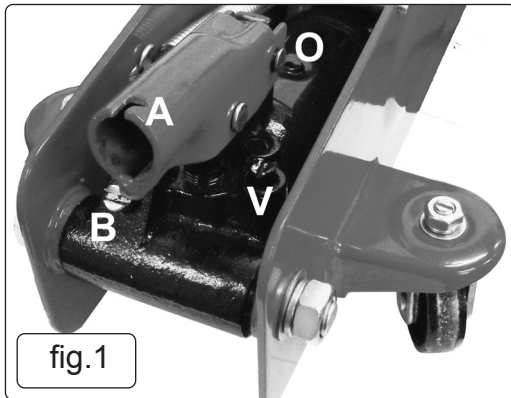

fig. 1
- 4.1.1. Before using jack for the first time, purge the hydraulic unit in order to eliminate any air in the system. Place handle onto the release valve, fig.1.B and open valve by turning the handle anti-clockwise for a maximum of one turn. Place handle back into the jacking point, fig.1.A and pump for 30 to 40 seconds. When complete, close the release valve by turning the valve fig.1.B clockwise.
- 4.4.1. Place the handle onto the release valve fig.1.B and turn it clockwise to close the valve. Place handle into socket fig.1.A and commence pumping handle up and down, until the jack saddle reaches the vehicle jacking point. Check the jacking point is centrally located on the saddle. Super Rocket Lift will only operate until chassis is reached. After that continued pumping raises the load at a slower rate.
- 4.5.1. Raise the jack high enough for the axle stands to be easily removed. Then place handle on release valve fig.1.B and turn anti-clockwise, very slowly, to open the valve.
- 5.5. To check the oil level, fully lower the jack. Remove filler plug fig.1.O. The correct level is the bottom of the screw hole. If oil level is low, fill as required. Pump jack 5 or 6 times to expel air. Pump jack up to full height and pour off excess oil before refitting plug.
- * **DO NOT** touch the safety overload valve (fig.1.V),